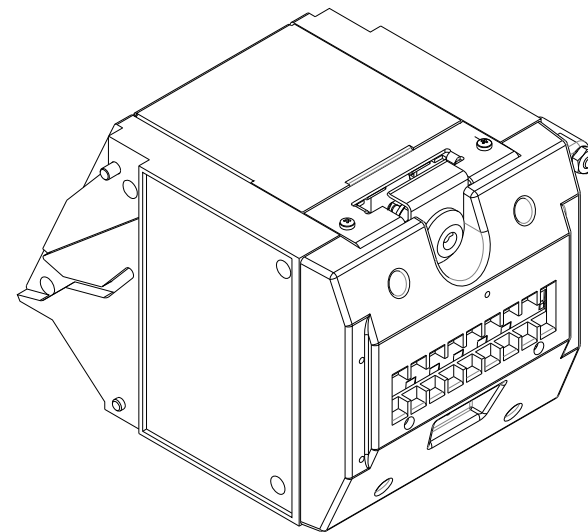

Fig. 6
- Step #5. Install the lock bracket into the dispensing cassette (Fig. 6)